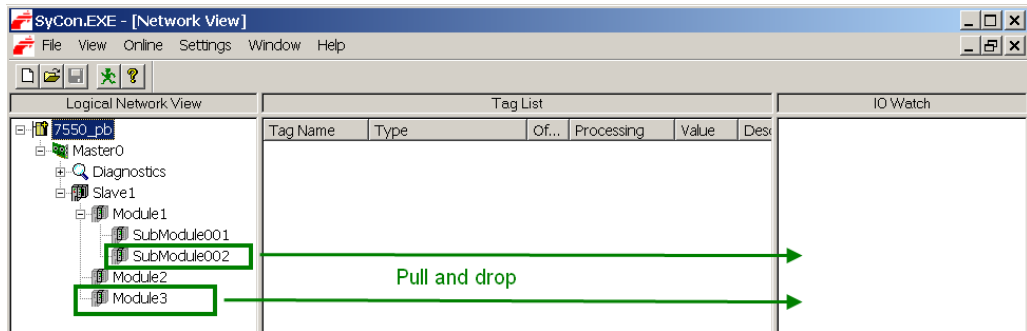

Figure 43: Adding the output modules to IOWatch
- Pull “SubModule002” and “Module3” to the IOWatch window (*Figure 43*)